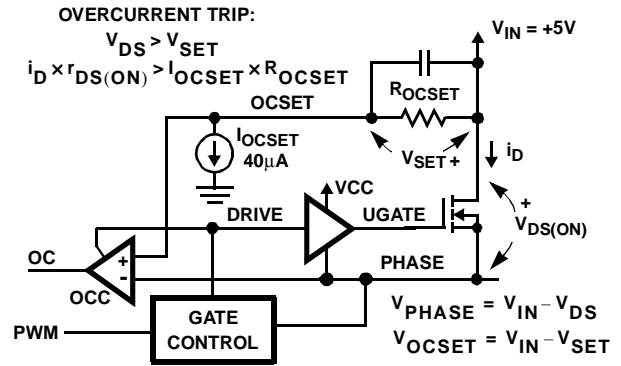

FIGURE 2. OVERCURRENT DETECTION
A resistor (ROCSET) programs the overcurrent trip level for the PWM converter. As shown in Figure 2, the internal 40μA current sink (IOCSET) develops a voltage across ROCSET (VSET) that is referenced to VIN. The DRIVE signal enables the overcurrent comparator (OCC). When the voltage across the upper MOSFET (VDS(ON)) exceeds VSET, the overcurrent comparator trips to set the overcurrent latch. Both VSET and VDS(ON) are referenced to VIN and a small capacitor across ROCSET helps VOCSET track the variations of VIN due to MOSFET switching. The overcurrent function will trip at a peak inductor current (IPEAK) determined by: